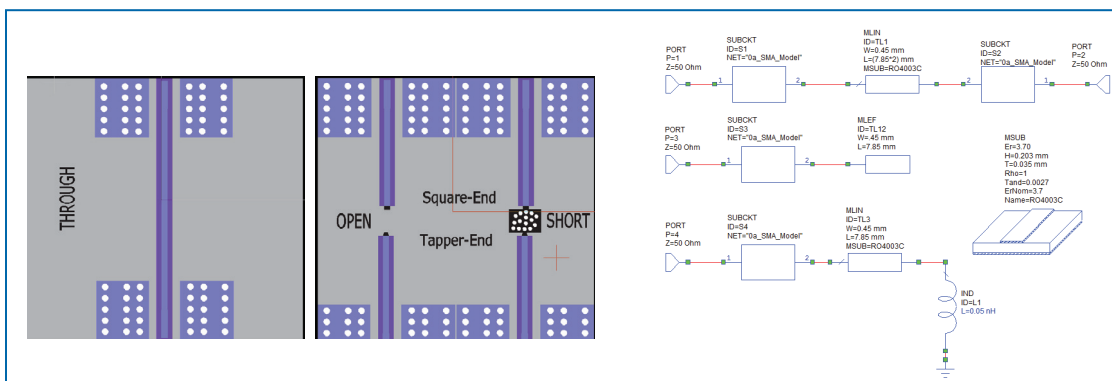

Figure 1: Actual layout of the PCB (left) and Microwave Office schematic diagram for PCB characterization (right).
Infineon chose NI AWR software for its exacting device modeling needs. The LNA and LNA/multiplexer PCB test structure include an RF input and output transmission line of predefined length and width. S-parameter and noise figure measurements of any device at the calibrated test equipment port will include this transmission line, as well as the SMA connector launches on the test boards input/output. The response of the test structure can be removed from the measurement through de-embedding, resulting in a more accurate measurement of the isolated device response. The test structure can be characterized through a variety of measurement-based methods or rigorous electromagnetic (EM) simulation. In this case, engineers used the closed-form transmission line and SMA models in NI AWR Design Environment, specifically Microwave Office circuit design software, to compare to three different calibration standards: namely a short, open, and through transmission line, as shown in Figure 1.